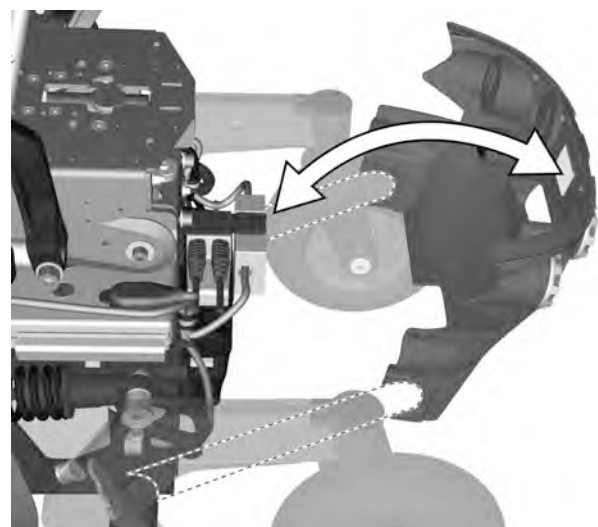

Figure 6. The chassis rear cover.
5. Pull the rear chassis cover off the chassis. See fig. 6. Note that the cover is mounted around the axles of the link arms. On Chassis with lights, disconnect the connector at the back marked "Rear lights and indicators" from the rear lights cabling.